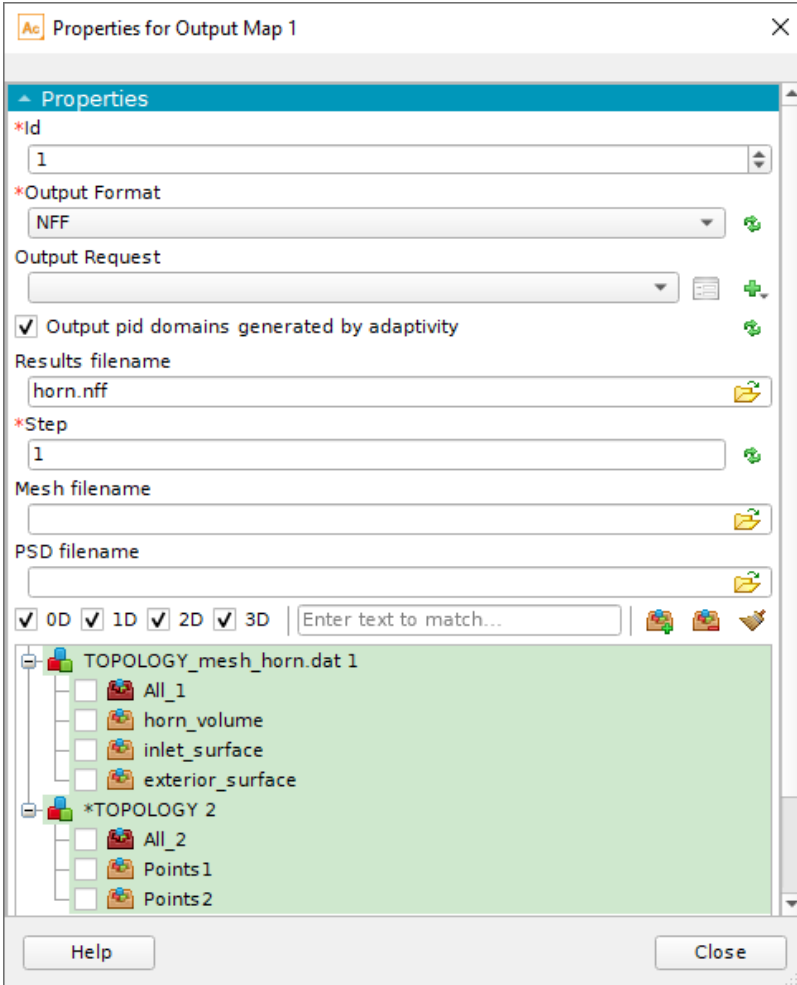
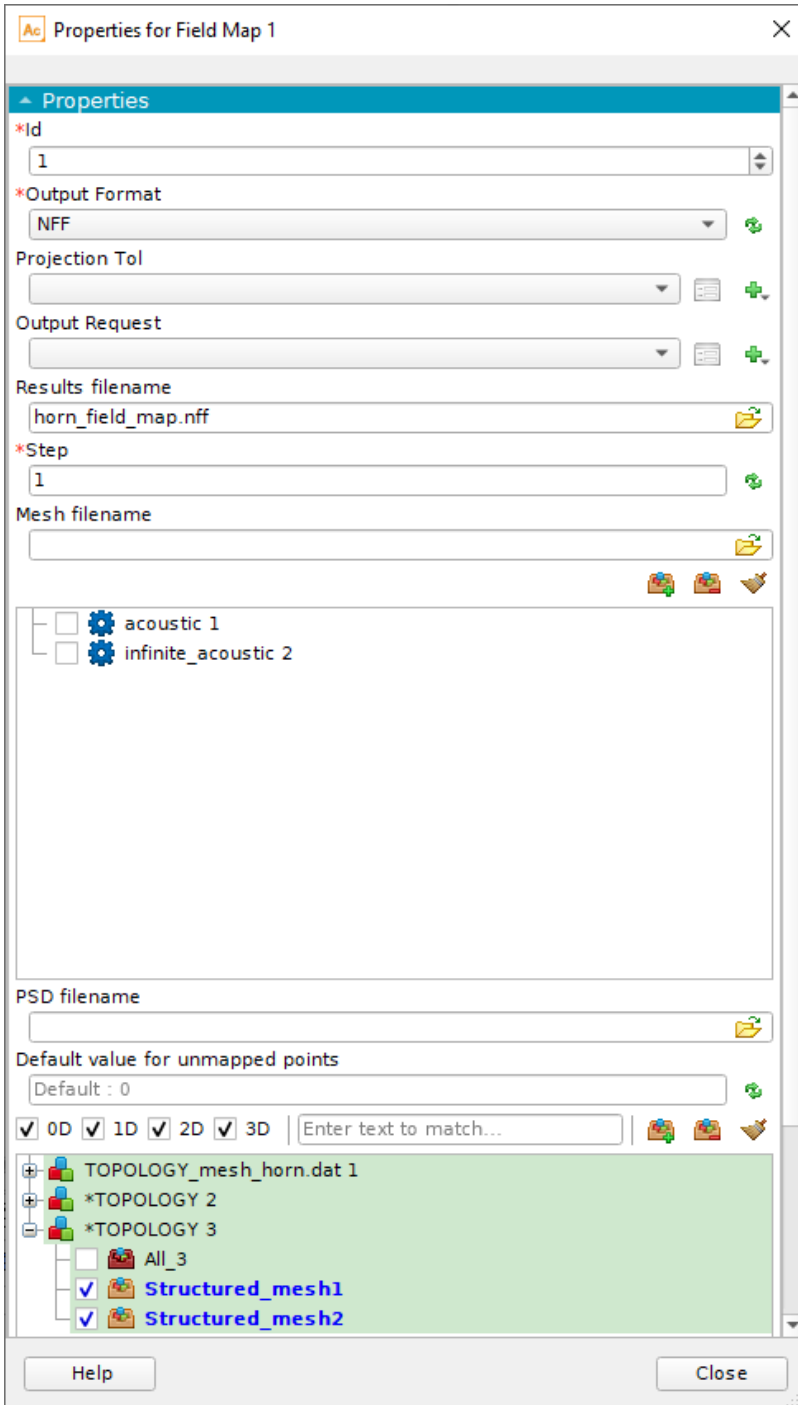

Figure 6.23: Edit the parameters of Output Map request
Figure 6.27: Edit the properties of the Field Map
- In the popup property window, edit the parameters as shown in Figure 6.23)
- In the popup property window, edit the properties (Figure 6.27).
The results for plotting the color maps are stored in the NFF databases. In this example, the databases are named "horn.nff" and "horn_field_map.nff" (see Figure 6.23 and Figure 6.27). The "horn.nff" contains results on the acoustic computational domain. The "horn_field_map.nff" contains results on the post-processing mesh.